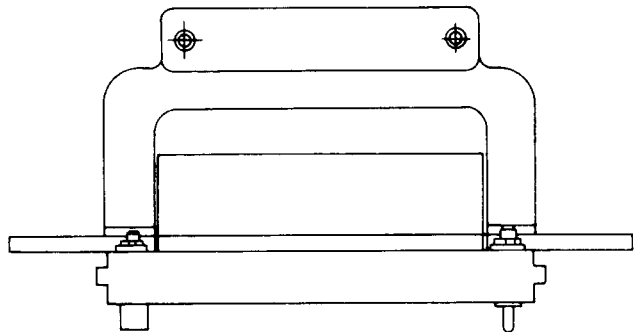

Fig. 4—KS-19401-Type Connector
2.04 ♦**KS-19401, L1 Through L4:** ♦The KS-19401, L1 through L4 (Fig. 4) are polarized, coaxial connectors, each consisting of a molded block of insulating material, equipped with 12 miniature, floating, snap-in contacts in two rows of six ♦and a screw lock mechanism.♦ The connector is arranged for panel mounting and used on the 301B data set.